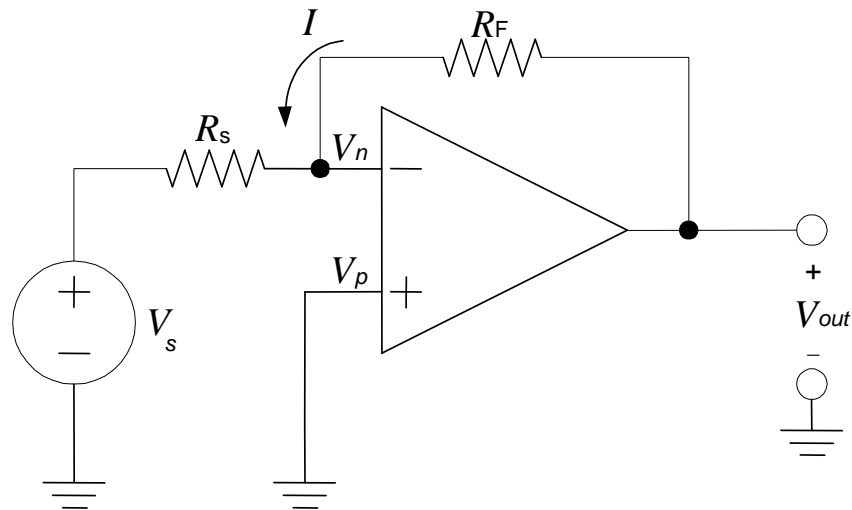

Figure 5 Inverting operational amplifier circuit.
Figure 5 shows another useful basic op-amp circuit, the inverting amplifier. It is similar to the non-inverting circuit studies in the class except that the input signal is applied to the inverting terminal via R_1 and the non-inverting terminal is grounded. Let us derive a relationship between the input voltage V_{in} and the output voltage V_{out} . First, since $V_n = V_p$ and V_p is grounded, $V_n = 0$. Since the current flowing into the inverting input of an ideal op-amp is zero, the current flowing through R_1 must be equal in magnitude and opposite in direction to the current flowing through R_2 (by Kirchhoff's Current Law).
1. Assemble the circuit shown in Figure 5 with $R_F = 20 R_s$. The power supply should be ± 15 V.